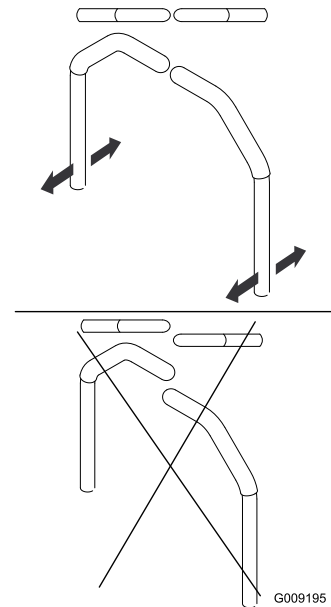

Figure 75
4. Align the levers front to rear position by bring the levers together to the neutral position and slide them until they are aligned, then tighten the bolts (Figure 75).